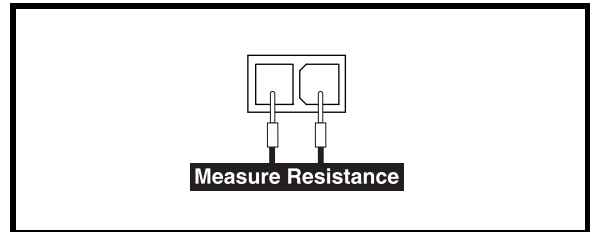

Figure 24. Connector 20a
**See figure 24.**
- *If your multimeter indicates about 30-65 ohms, then replace the brake harness (21) and retest the system.*
- *If your multimeter does not indicate about 30-65 ohms, then replace the brake (20) and retest the system.*